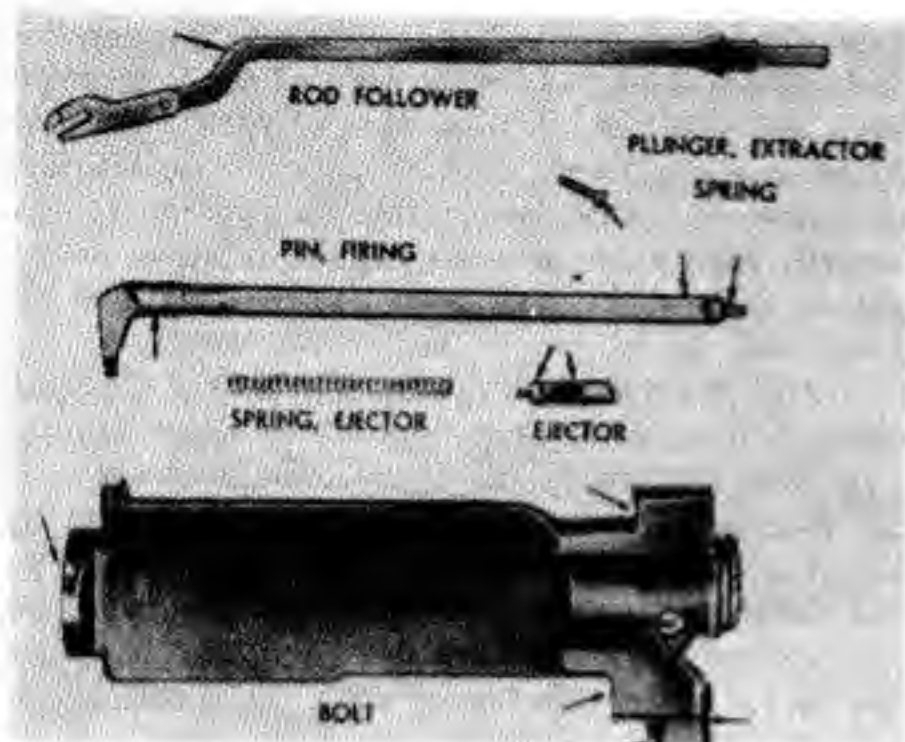
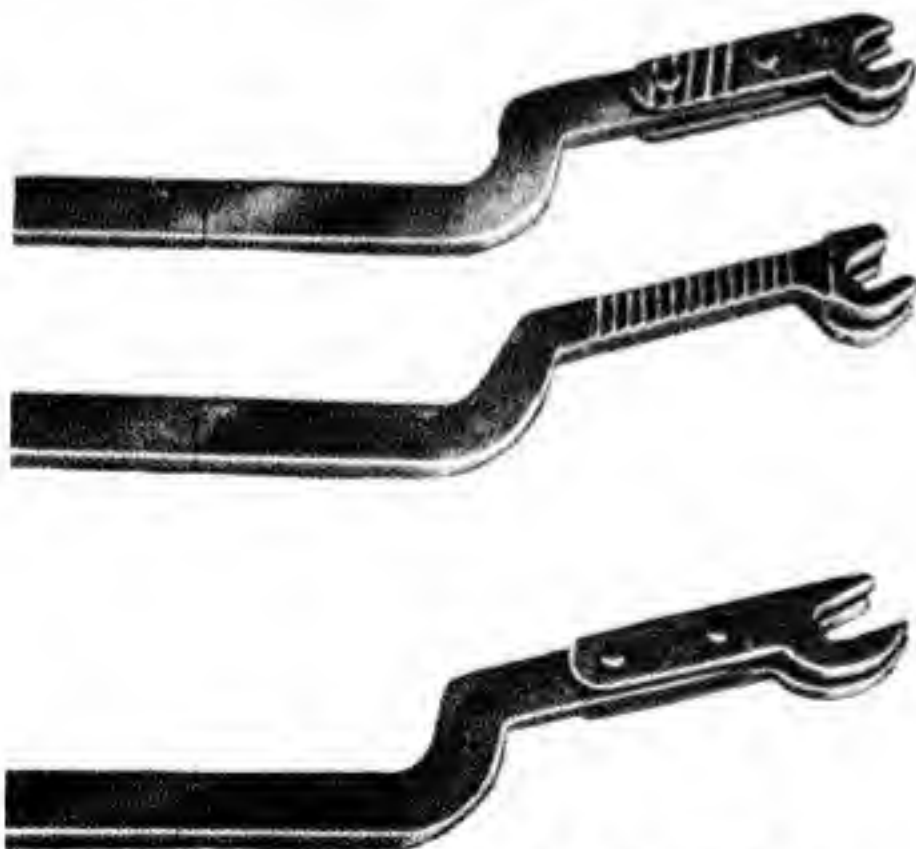

Fig. 118. Follower rod and bolt group points to be inspected.
Fig. 119. Old and New Type Follower Rods. Discard old type short fork rods (top and center), install new type long fork rod (bottom).
46. Follower rod: inspect the follower rod (Fig. 118) for a pinched or worn fork and for loose rivets. The follower rod should have a long fork; therefore, replace all rods having short forks (see Fig. 119). This is necessary to prevent the rod from disengaging when grenades are being launched.